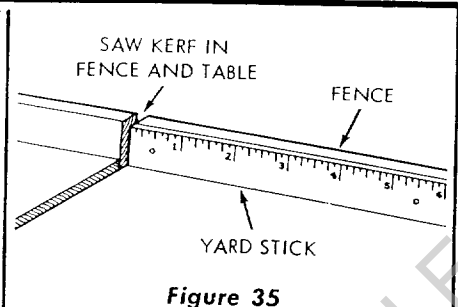

Figure 35
4. A scale may be attached to the fence to aid the operator when measuring lengths during cross-cut operations. This can be accomplished by tacking a yard stick to the fence as shown. (See figure 35.)